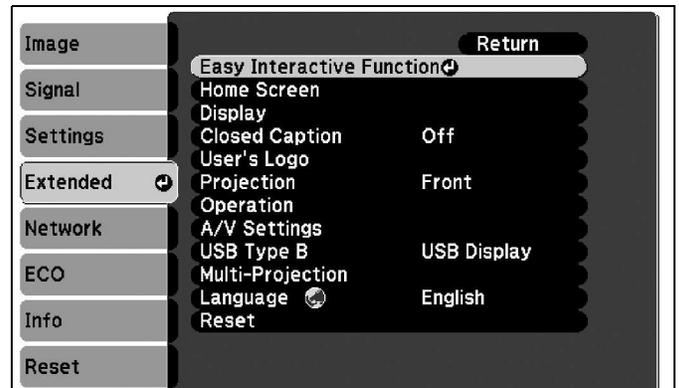

Figure 31
1. Select **Easy Interactive Function** from the **Extended** menu. (See Figure 31)